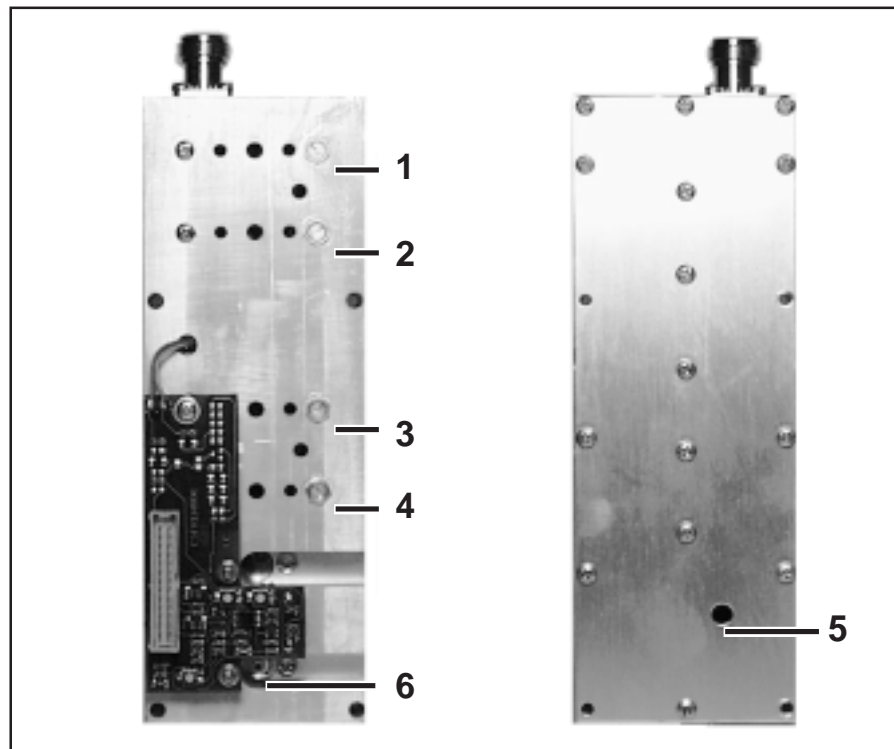

Figure 9-3
- Identify the five variable capacitances that will be used (Figure 9-3): the regulators 1,2,3 and 4 are on the bottom side of the receiver and have a screw-like look; the regulator 5 is a SMD capacitance trimmer mounted on the internal PCB and it is possible to operate on it with the proper screwdriver, without opening the box, through a hole.
- In the receiver, disconnect the link between the RF front-end and the IF circuit. Use the SMB connector of the front-end that is now free (6, Figure 9-3) to connect it to the spectrum analyser. Switch on the receiver.